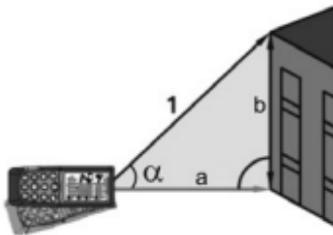

Fig. 12: Distance test with trigonometric calculation
3. Position the instrument in the point (1) corresponding to the value of the desired measuring angle “ $\alpha$ ” (varying between  $\pm 65^\circ$  with transversal tilt not higher than  $\pm 10^\circ$ ) shown on the first display and press the key or the side **MEAS** key (see Fig. 12)
4. The value of distance “1” is shown on the resulting display. The value of distance “a” is shown on the third display, calculated as:  $a = (1) * \cos\alpha$ . The value of distance “b” is shown on the second display, calculated as:  $b = (1) * \sin\alpha$  (see Fig. 12)